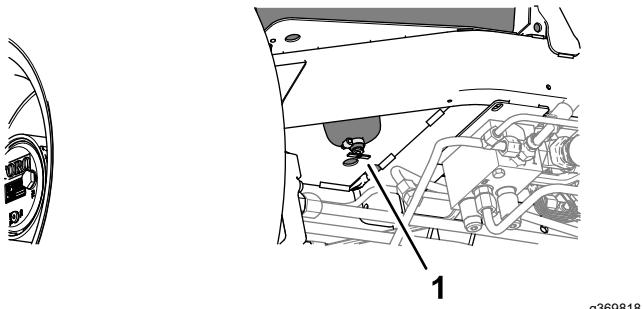

Figure 120
2. Align a drain container under the drain valve at the bottom of the fuel tank (Figure 120).